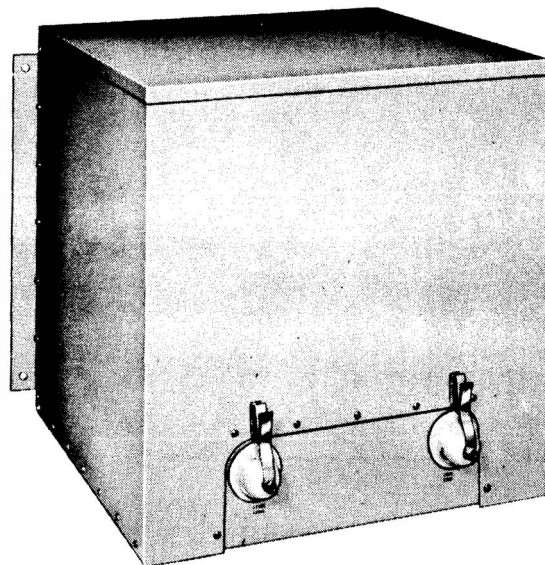

Figure 1-16. Transmission Line Coupler CU-390/FRT-24
e. TRANSMISSION LINE COUPLER CU-390/FRT-24.—Transmission Line Coupler CU-390/FRT-24 (see figure 1-16) matches the 52-ohm unbalanced output of the transmitter to a 600-ohm balanced antenna within the frequency